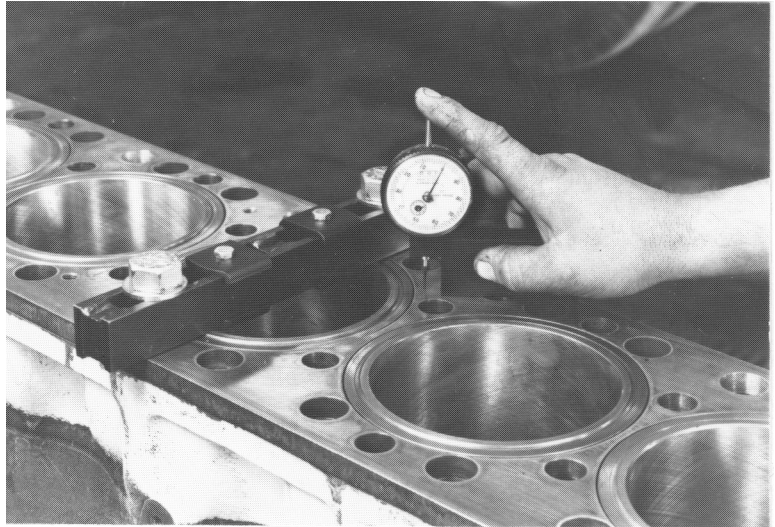

Figure 3
3. Place the gauge bar on the cylinder block, and dial the block surface to zero on the indicator. See Figure 3.